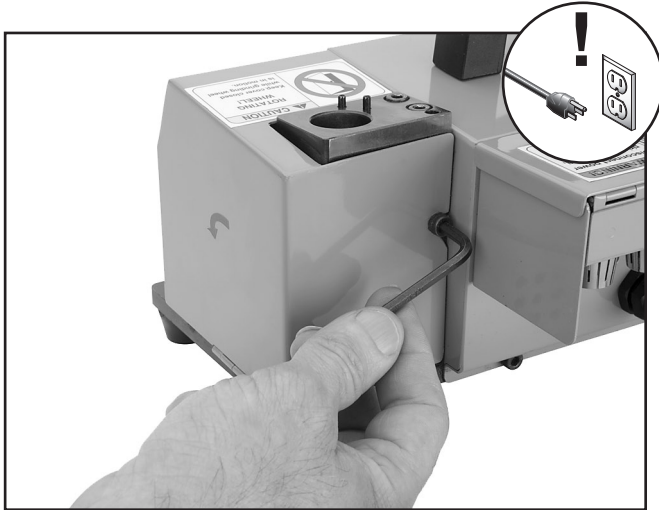

Figure 28. Removing grinding wheel cover cap screw.
2. Use the included hex wrench to loosen the cap screw securing the grinding wheel cover at the back of the grinder, then tilt the cover away from the grinder (**Figure 28**).
2. Remove the mounting screw, flat washer and gasket, fan and grinding wheel, as shown in **Figure 28**.